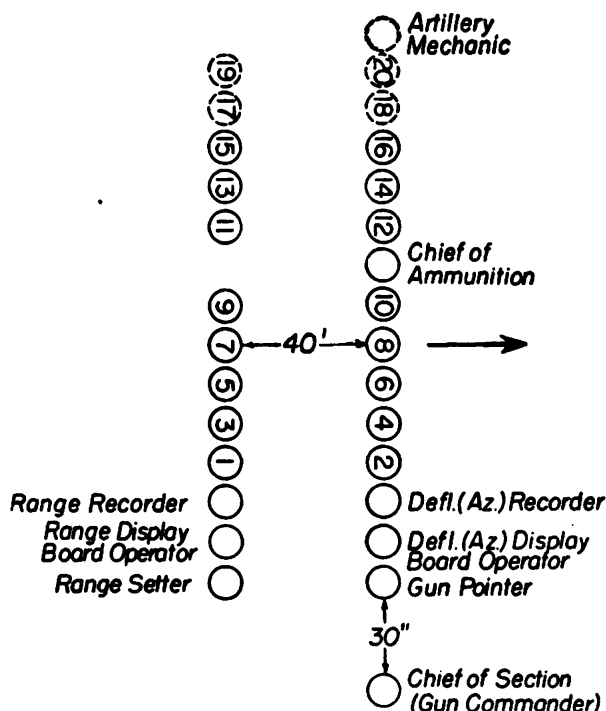

FIGURE 5.—Formation of gun section for 6-inch gun on disappearing carriage.
11. Notes on drill.—*Q.* What is the formation for the 6-inch gun section (disappearing carriage)? *A.* See figure 5.